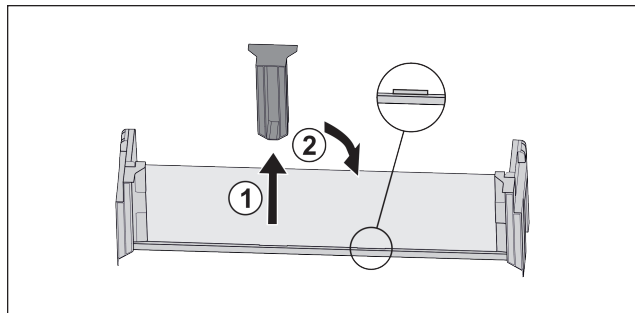

Fig. 18
- ▶ Pull off the middle holder Fig. 18 (1).
- ▶ Insert the middle holder in the second position Fig. 18 (2).